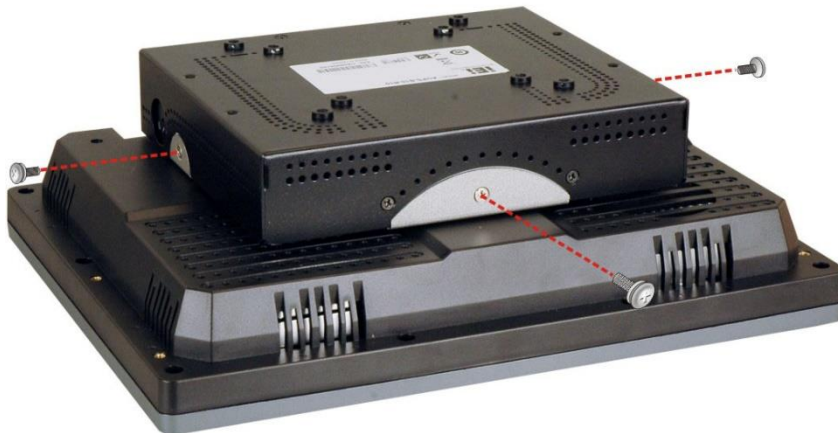

Figure 3-5: Mounting the AUPS Series
Step 2: Place the AUPS Series onto the mounting bracket. Secure the AUPS Series to the bracket with three retention screws, one on the top panel and one on each side panel (**Figure 3-5**).